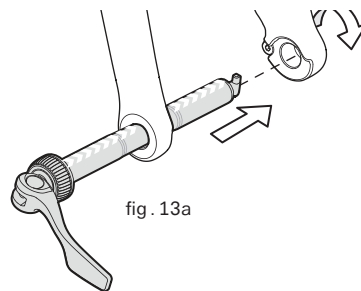

fig. 13a
6. If your bike has the **Cervélo Rapid Axle mechanism**, move the preload lever to the OPEN position (fig. 11b). Carefully insert the wheel between the fork blades, ensuring that the disc rotor properly slots between the brake pads as it slots into the caliper until the hollow axle lines up with the holes in the fork dropouts. The preload lever should be on the right side of the bicycle. Slide the axle through the fork dropout and wheel hub with the arrows facing up until it contacts the dropout on the left side of the fork. Visually align the T-End of the thru-axle with the insert slot on the left side of the fork, then turn the preload lever clockwise 90° until the T-End is stopped by the insert. (fig. 13a). Move the preload lever into the CLOSED position (fig. 13b). The lever should now be parallel to the fork blade and curved toward the wheel.